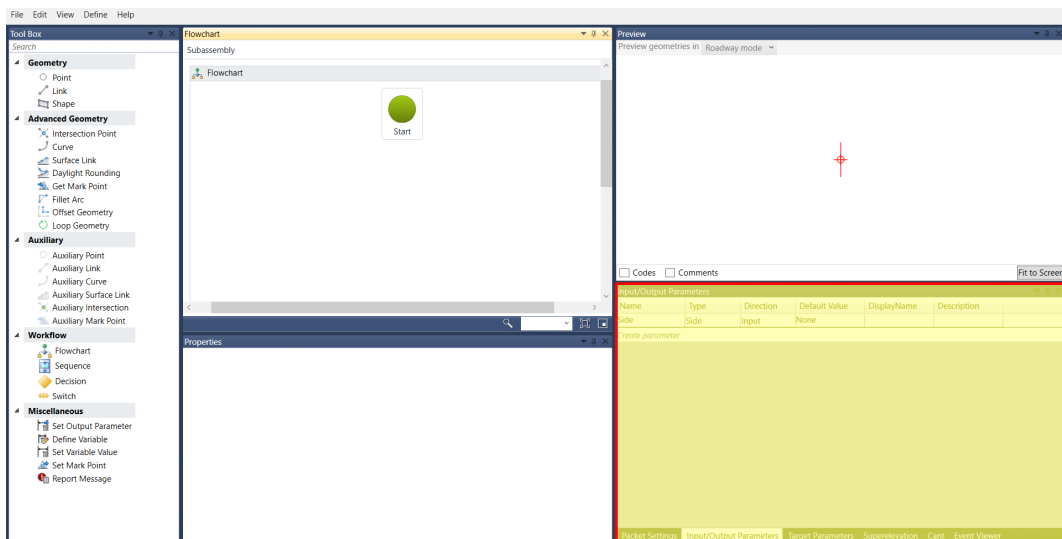

Figure 9.6 – Packet Settings area
- **Packet Settings:** This panel is comprised of six tabs delineating the subassembly: **Packet Settings**, **Input/Output Parameters**, **Target Parameters**, **Superelevation**, **Cant**, and **Event Viewer**. Mastery of these panels and their functionalities will empower you to efficiently navigate and utilize Autodesk Civil 3D Subassembly Composer for your design needs (refer to *Figure 9.6*).